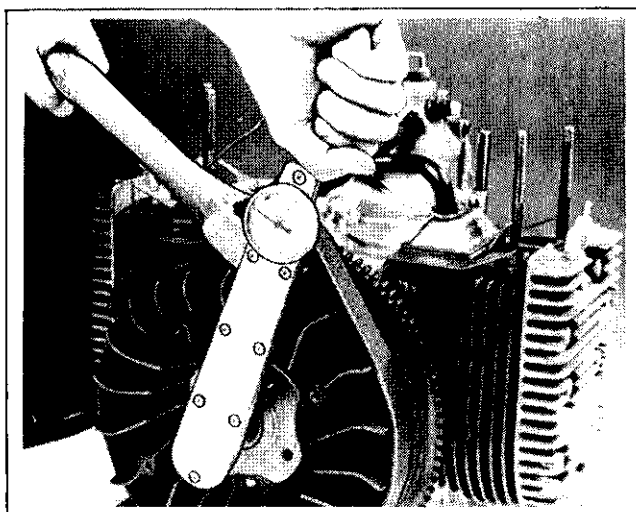

Figure 8-32. Torquing Flywheel Retaining Screw
4. Use a torque wrench to tighten the flywheel retaining screw to 40 ft. lbs. (see Figure 8-32). Hold flywheel with a Kohler strap wrench (part no. 52 455 03) while torquing nut. (See Section 1 -“Special Tools”.)